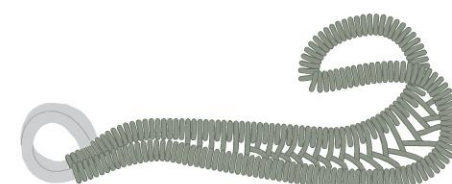

figure 6
- 1 1** To shape the hook, gently grasp the U-shaped end with the wide end of round-nose pliers. Roll the pliers so the hook is on the same side as the small loops made in Step 4. Because round-nose barrels are tapered, your hook will be crooked. Place the pliers on the other side of the U and slightly roll to straighten the hook. If your coils/weave become separated, push them back together with your fingernail (Figure 6).